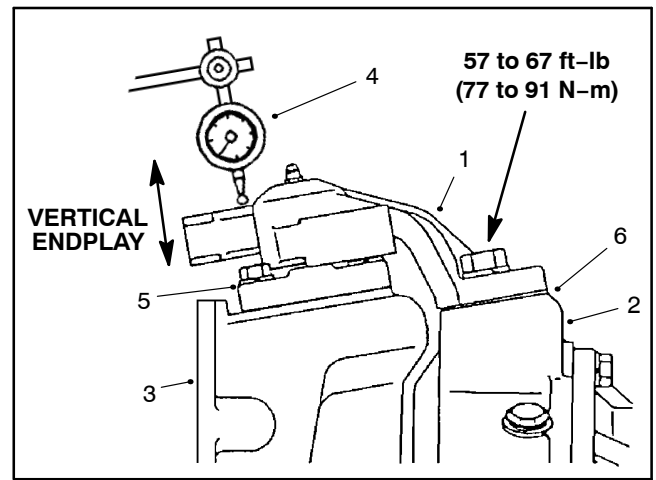

Figure 25
C. Use dial indicator to measure vertical endplay of axle case (Fig. 25).